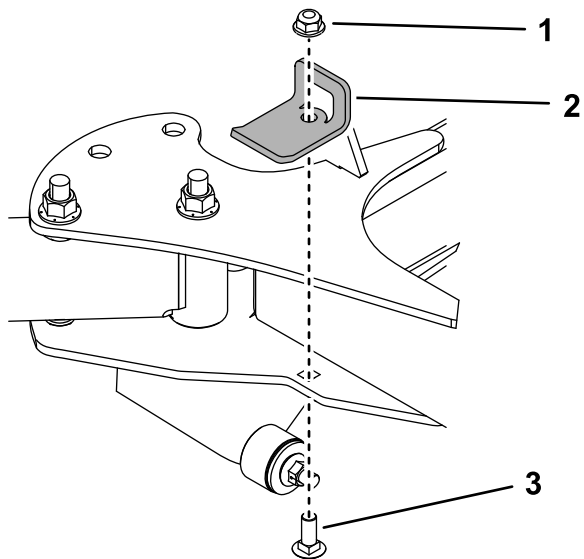

Figure 10
- Use a carriage bolt (3/8 x 1 inch) and a locknut (3/8 inch) to install the stop bracket to the right side of the machine (Figure 10). Torque the bolt to 37 to 45 N·m (27 to 33 ft-lb).